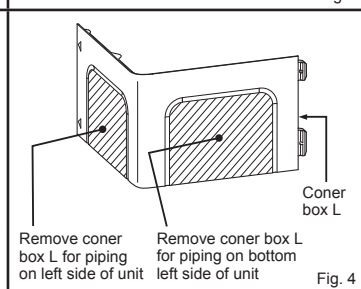
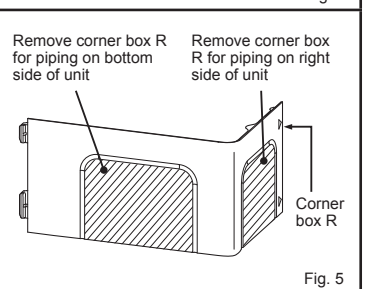

Fig. 4
Fig. 5
- According to the piping direction, remove the shaded part of the corner box L (Fig. 4) or corner box R (Fig. 5). Reinstall electrical cover, corner box R and front panel.
- 5) Insert the drain hose fully into the drain pan at the back right of the indoor unit. (Fig. 4)
- 6) Insert the drain hose into wall hole sleeve (C), and attach the upper part of indoor unit onto the installation plate (1). Then, shift the indoor unit completely to the left to make placing the piping in the back of the unit easier.
- 7) Cut out a piece of cardboard from the shipping box, roll it up, hook it onto the back rib, and use it as a spacer to lift the indoor unit. (Fig. 5)
- 8) Connect the refrigerant piping with the extension pipe (B).
- 9) Attach the lower part of the indoor unit into the installation plate (1).
- 4) Flaring work (Fig. 4, 5). Firmly hold copper pipe in the dimension shown in the table. Select A inch (mm) from the table according to the tool you use.